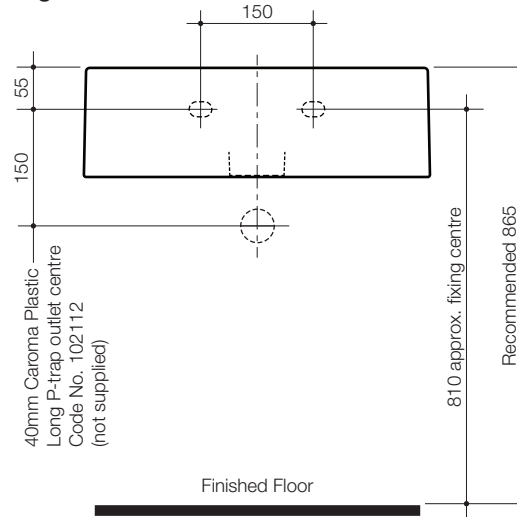

Figure 1
For timber stud walls, noggins and studs must be positioned at a height to allow for the location of fasteners as detailed in **Figure 1**.
- 1- Mark fixing screw hole position on finished wall at the recommended height as detailed in **Figure 1**.